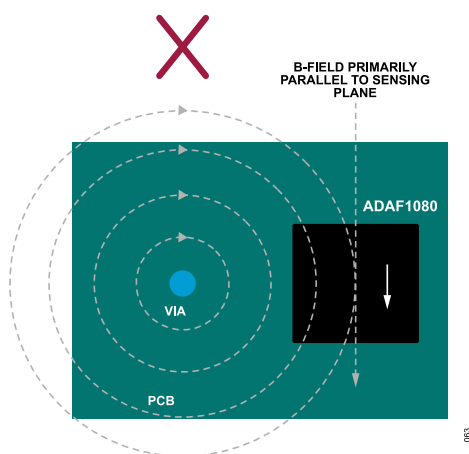

Figure 61. Current Carrying Vias Placed as Far Away from the ADAF1080 as Possible
3. Keep any current carrying vias as far from the ADAF1080 as possible. The field generated from current carrying vias can result in a magnetic field vector in the same plane as the ADAF1080, which can be detected by the AMR sensor and impact the accuracy of the sense field measurement, as shown in Figure 61.